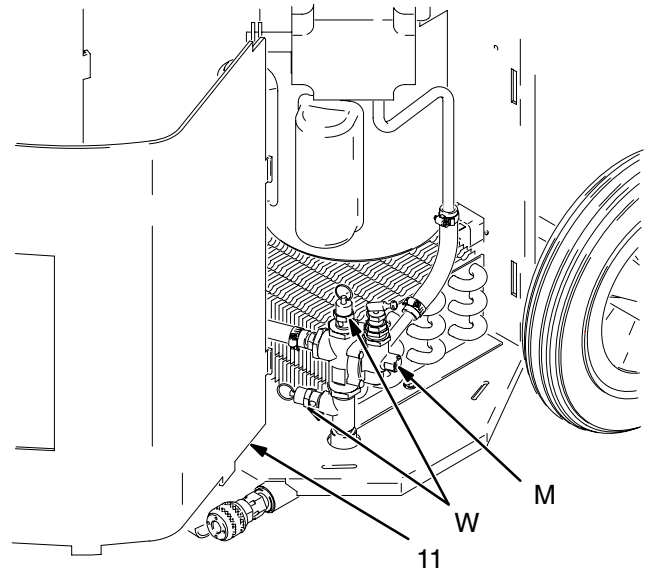

Fig. 9
- A compressor unloader valve (M) with two pressure relief valves (W) is located under the compressor guard (11). Air escapes from the valve, often causing a popping sound, when air flow at the gun is too restricted. The valve resets automatically when the air flow is increased. See Fig. 9.